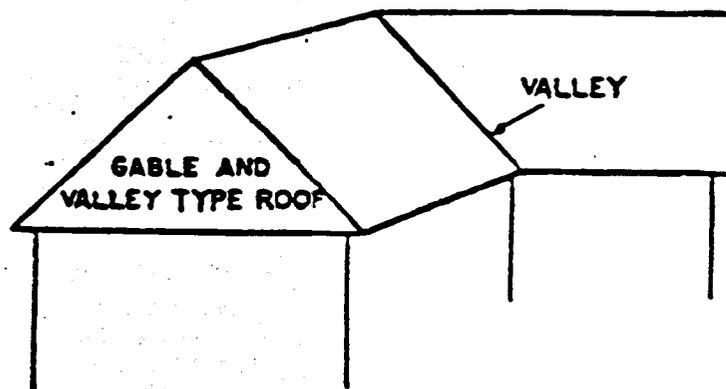
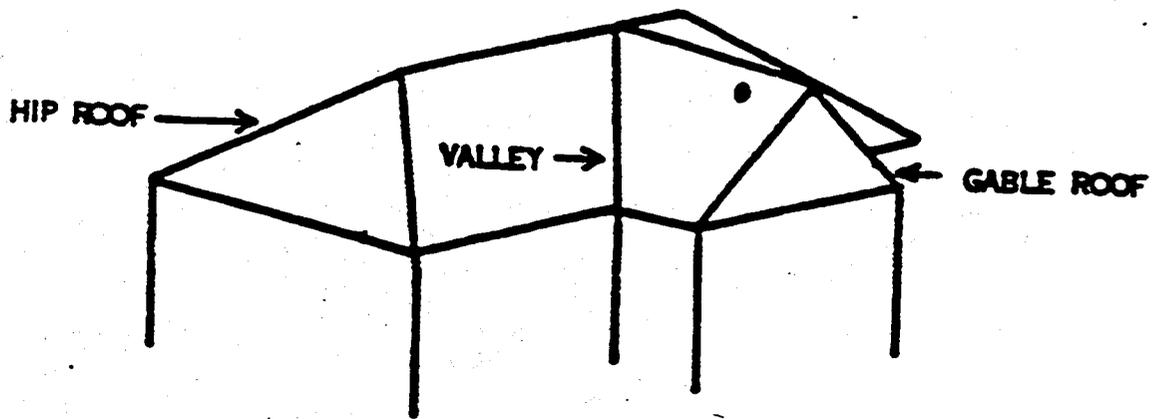

Fig 2-29. Combination gable and valley roof.
Fig 2-30. Combination hip and gable roof.
c. Combinations of the various types can be used together. The gable and valley roof (fig 2-29) is a combination of two gable roofs intersecting each other. Many times a combination of hip roof intersecting with gable roof may be used (fig 2-30).